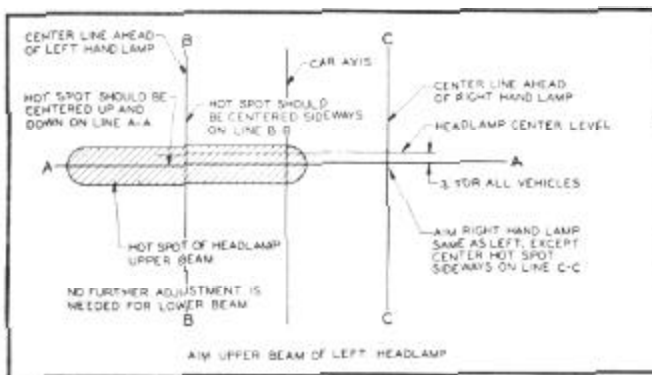

FIGURE 30
Draw a horizontal line on this surface at the level of a point 3" below the headlamp center, as shown in Figure 30. This line is 29-3/4" above the floor line. If, however, your state requires a loading allowance, draw this horizontal line below the above line by whatever amount that is required in your state.
Move the light beam to the right or left by turning the horizontal adjustment screw (C), Figure 30. Raise or lower the beam by turning the vertical adjustment screw (A).
Cover one lamp to obscure the beam of light and then adjust the beam from the other lamp so that the center of the zone of highest intensity falls on the intersection of the horizontal line A-A, Figure 30, 3" below the headlamp center, and the vertical line directly ahead of the lamp.